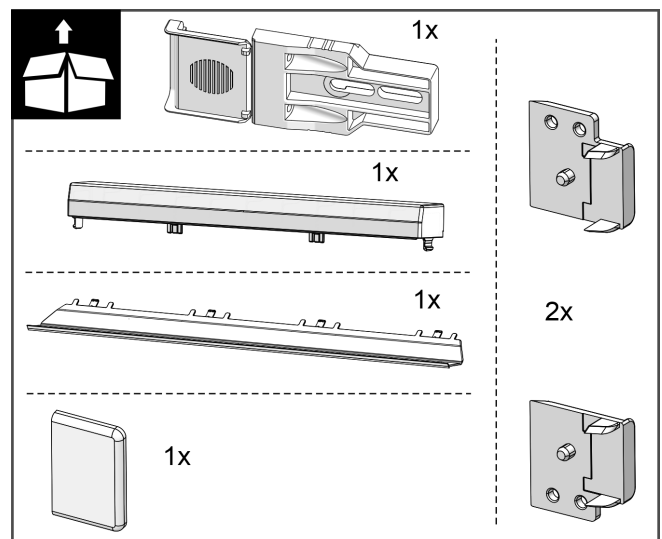

Fig. 21
2. Check the assembly parts in the accessory kit. Fig. 21 () to ()
Assembly parts in the accessory kit Fig. 21 () to ()